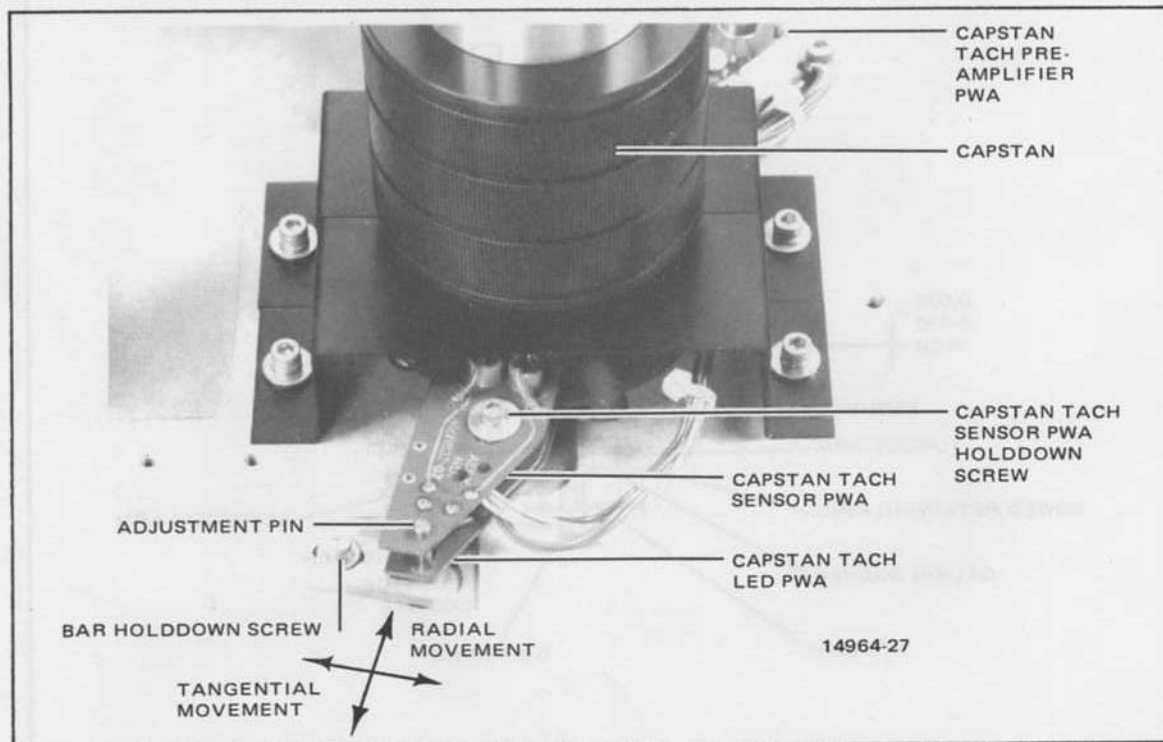

Figure 5-5. Capstan Tach Sensor Adjustment
See Figure 5-5. Use the following procedures to check the operation of the Capstan Tach Sensor PWA and Capstan Tach LED PWA; and, if required, adjust the position of the Capstan Tach Sensor PWA (steps 13 through 27). Normally an adjustment is required if the capstan motor "runs away" or if the Capstan Tach Sensor PWA or Capstan Tach LED PWA is replaced. Proceed as follows:
- STEP 4 Connect TP1 and TP2 of the Capstan Tach Pre-amplifier PWA (Figure 5-5) to inputs of a dual trace oscilloscope. Set oscilloscope for chop mode and trigger off either signal.
- STEP 12 Proceed to step 25 if performance tests for amplitude, phase, and motion are correct; but if capstan runs faster when STOP is pressed, the Capstan Servo PWA may have a malfunction or the Capstan Tach Sensor PWA position may need to be adjusted to obtain the opposite 90° phase relationship of the signals at tach 2 and tach 1. If performance conditions have not been met or if repairs have just been made, proceed to adjust the position of the Capstan Tach Sensor PWA (Figure 5-5) to obtain tach signals of proper amplitude and phase relationship by performing steps 13 through 26.
- STEP 13 Connect dual trace scope to TP1 and TP2 of Capstan Tach Preamp PWA (Figure 5-5). Adjust scope for chop mode and trigger scope from either one of two signals.
- STEP 14 Loosen two hold-down screws shown in Figure 5-5 so there is still some tension against lock washers.
- STEP 15 Carefully move adjustment pin (Figure 5-5) tangentially (left and right) and radially (in and out) to capstan to obtain maximum output at TP1 and TP2 of the Capstan Tach Preamplifier PWA.
- Tighten bar holddown screw (Figure 5-5)
- STEP 21 After opposite phase is established, first tighten bar holddown screw, then tighten the Capstan Tach Sensor PWA holddown screw (Figure 5-5).